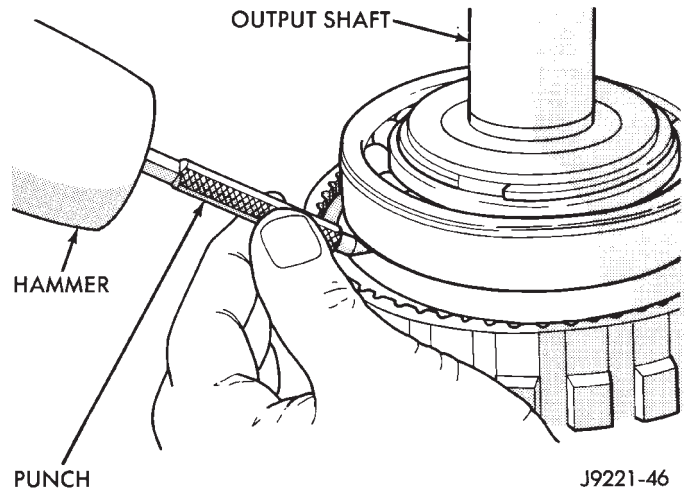

Fig. 32 Marking Annulus Gear And Output Shaft For Assembly Alignment
(23) Mark annulus gear and output shaft for assembly alignment reference (Fig. 32).